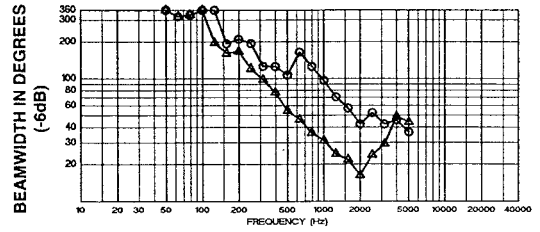

FIGURE 4 — TL15-2 One-Third-Octave Directivity vs Frequency
Directivity Factor R_θ (Q), Median over Indicated Range (see Figure 4),
Figure 4 illustrates the total directivity of the TL15-2. The directivity factor R_0 (Q) is the relative value, at a point, of the TL15-2 when compared to an ideal spherical response. The directivity index, D_i , is calculated by $D_i = 10 \log R_0$.